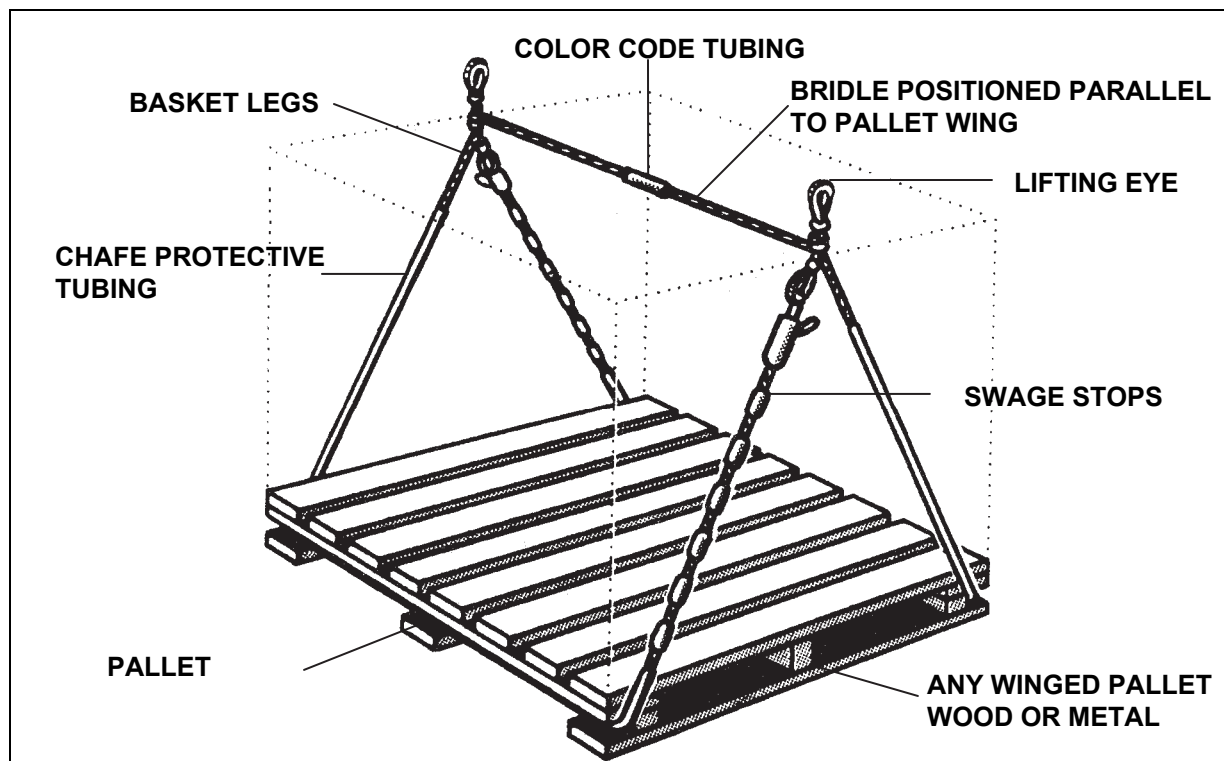

Figure 9-8. Adjustable Pallet Sling Mk85, 86, 87, and 100
- **Adjustable Pallet Slings.** Palletized ordnance may be transferred without cargo nets using the adjustable pallet sling (figure 9-8). In order to attach the sling to the load, follow these steps: